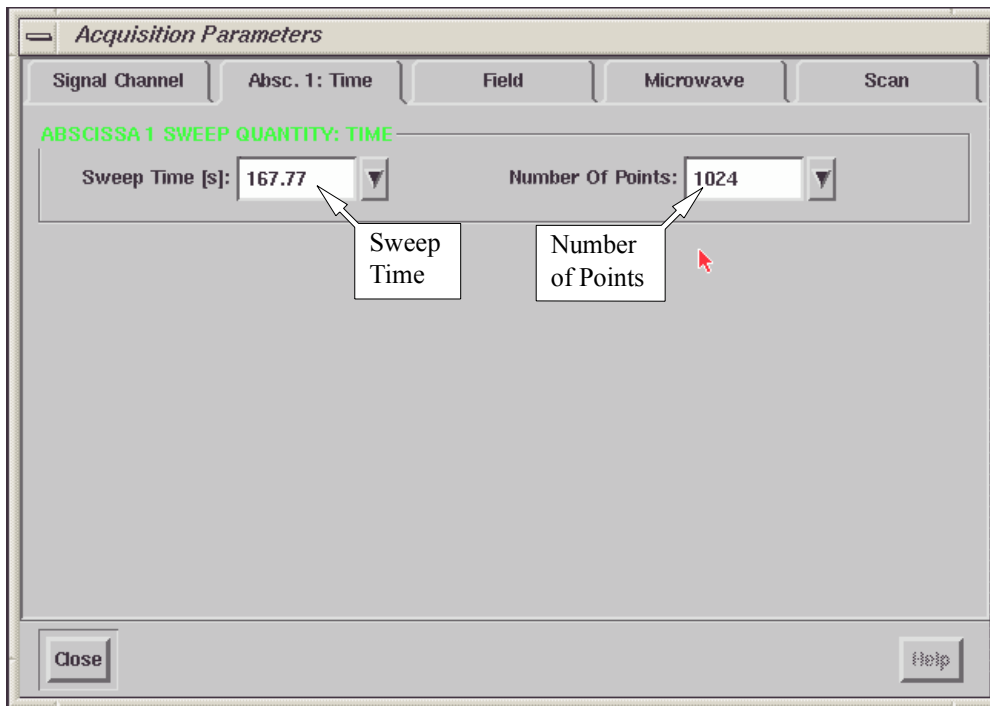

Figure 3-12 Setting parameters for the Absc.1: Time folder.
5. **Set the time sweep parameters.** Click the Absc 1: Time tab. Set the Number of Points to 1024. Set the Sweep Time to 167.77 s. (See Figure 3-12.)